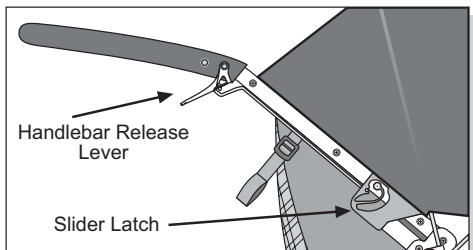

Fig. 3 Handlebar in the fully open position.
3. HANDLE: Rotate the stroller handle up to the fully open position. Slider Latches will lock into place (Fig. 3).